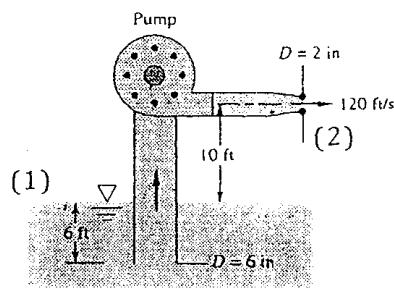

Fig. P3.137
**3.137** A fireboat draws seawater ( $\text{SG} = 1.025$ ) from a submerged pipe and discharges it through a nozzle, as in Fig. P3.137. The total head loss is 6.5 ft. If the pump efficiency is 75 percent, what horsepower motor is required to drive it?